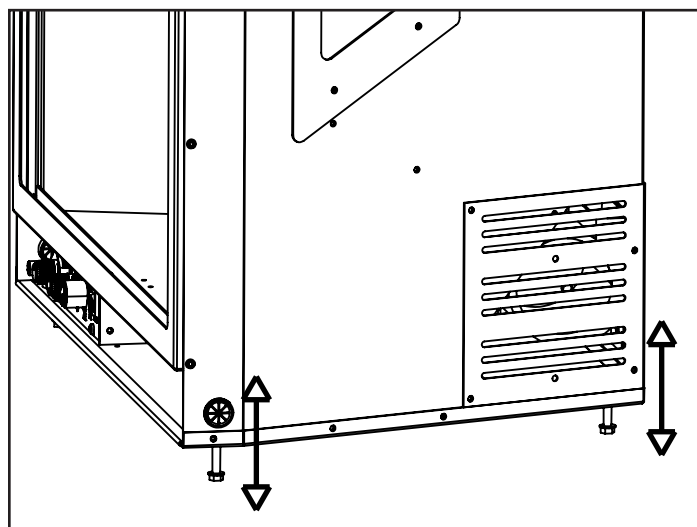

Figure 22: Levelling legs position.
8. Adjust the levelling legs to ensure the unit is level and high enough if a base shelf and/or riser is to be installed. There are four levelling legs on the bottom of the unit (shown in Figure 22).